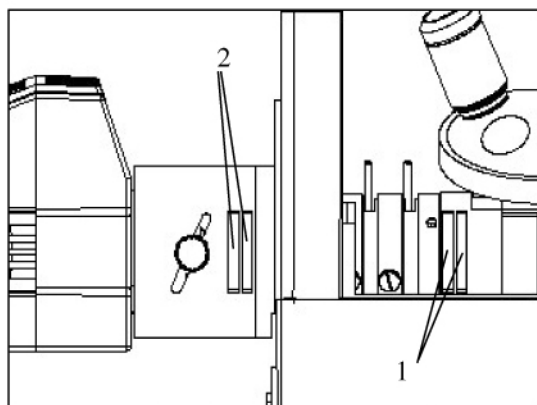

Fig. 10
Mounting Filters and Polarizer (Figure 10)
1. Insert the polarizer and analyzer as described on page 8 (Figures 10 & 11).